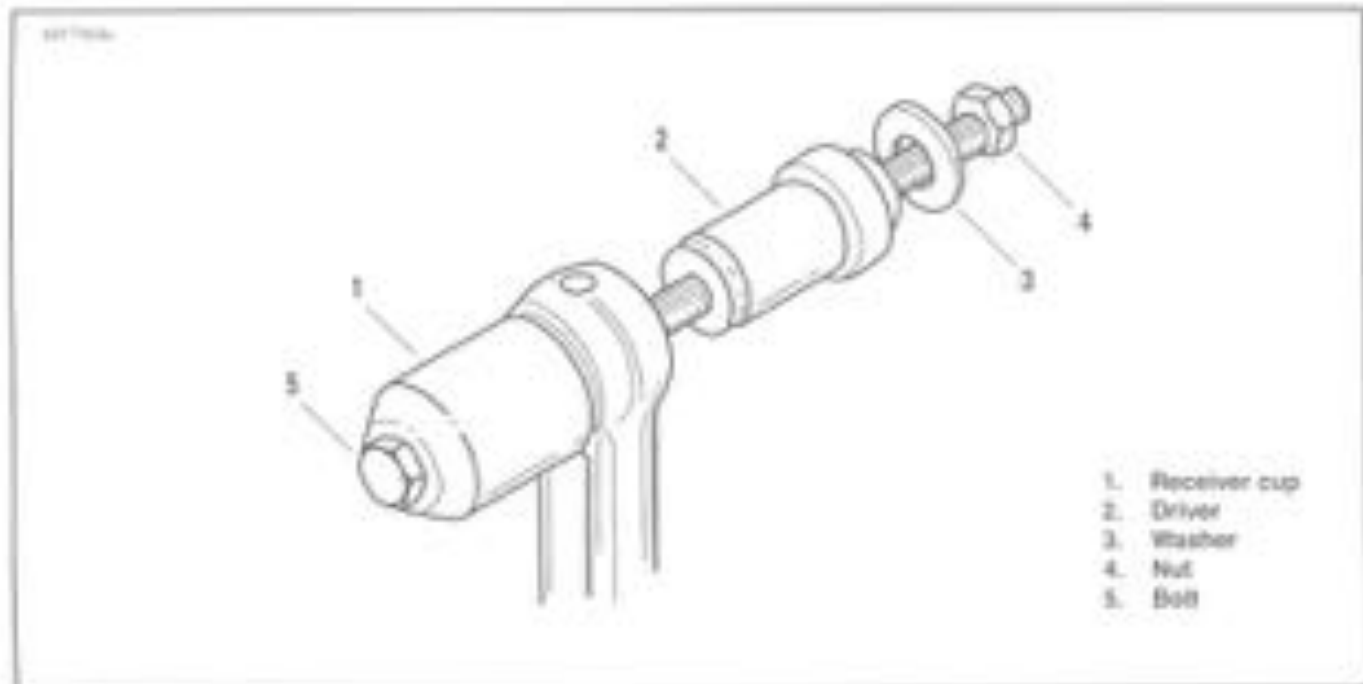

Figure 3-35. Piston Pin Bushing Tool Assembly for Bushing Removal
1. See Figure 3-35. Install plastic hoses over studs.
3. See Figure 3-35. Attach PISTON PIN BUSHING TOOL (Part No. HD-95984-32C) to the connecting rod (receiver cup on one side of the rod and the driver on the opposite side) as shown.